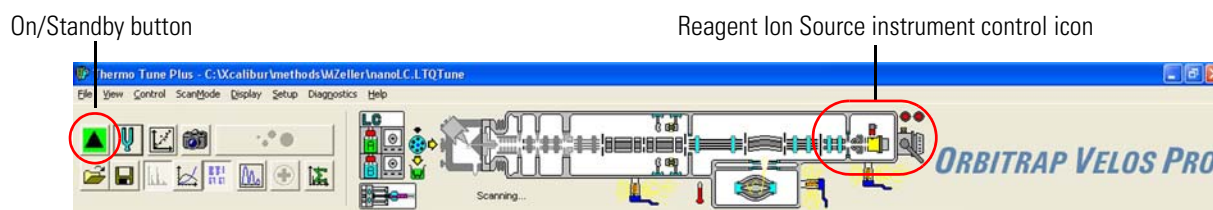
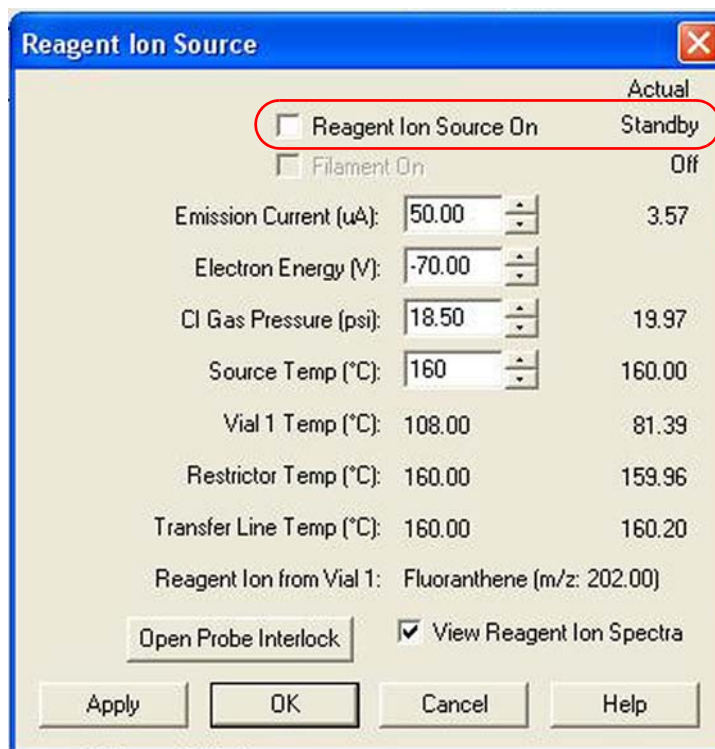

Figure 2-2. Tune Plus window (Orbitrap Velos Pro ETD), toolbar
Figure 2-3. Reagent Ion Source dialog box with Reagent Ion Source On box and Actual condition circled
You can determine the state of the MS detector by observing the state of the On/Off/Standby button on the Control/Scan Mode toolbar. See Figure 2-2. The three different states of the On/Standby button are shown at the left.
2. Click the Reagent Ion Source portion of the instrument control graphic at the top of the Tune Plus window. (See Figure 2-2.) The Reagent Ion Source dialog box appears. (See Figure 2-3.)
3. In the Reagent Ion Source dialog box, clear the Reagent Ion Source On box to place the Reagent Ion Source in Standby condition. See Figure 2-3 on page 2-5. This places the Reagent Ion Source in Standby condition as indicated by the Actual condition shown to the right of the Reagent Ion Source On box.
You can determine the state of the MS detector by observing the state of the On/Off/Standby button on the Control/Scan Mode toolbar. (See Figure 2-2 on page 2-4.) The three different states of the On/Standby button are shown at the left.